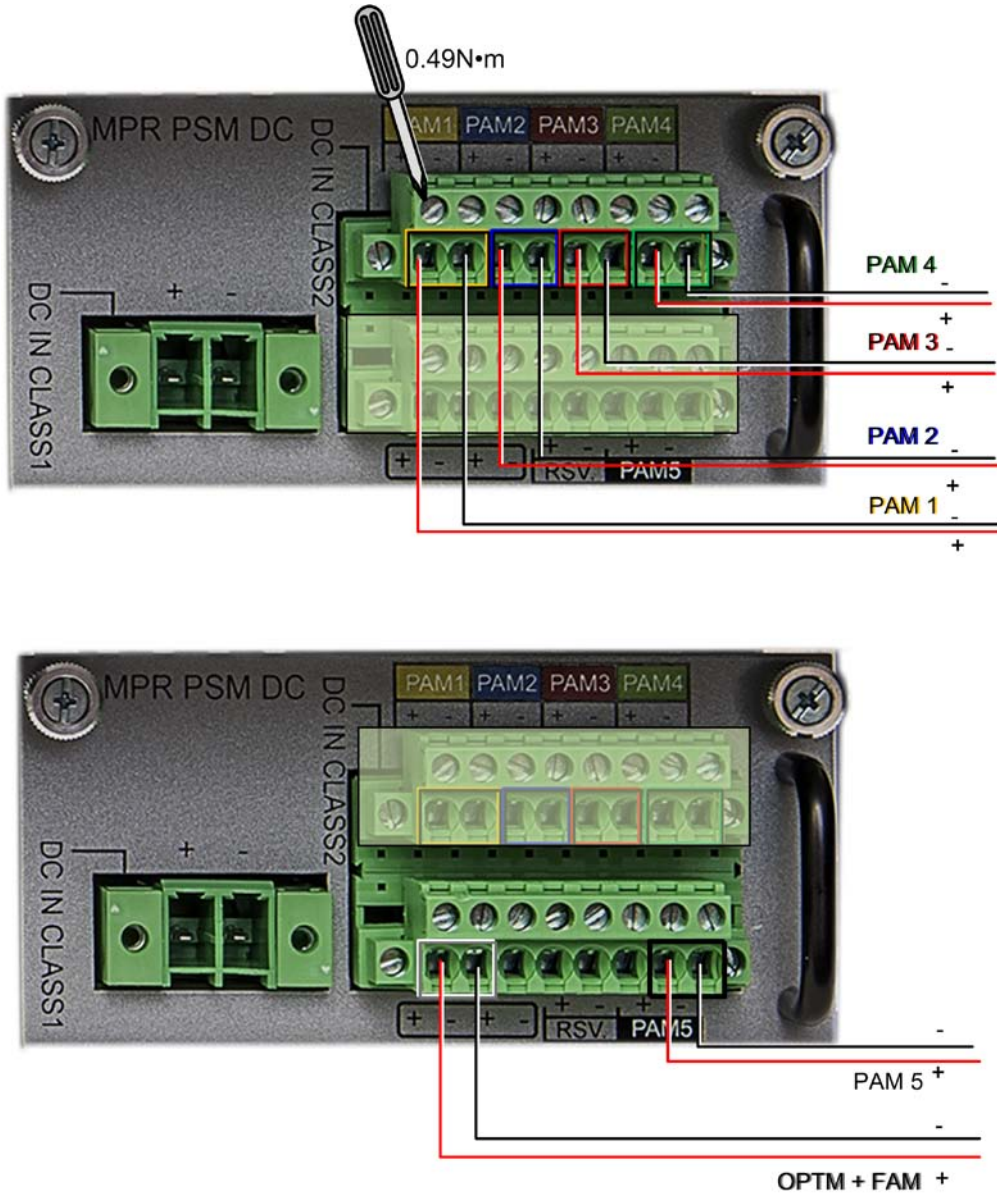

Figure 4-9. Example of CLASS2 DC Wiring Connections
- The CLASS2 DC connector supports the following wire pairs (refer to Figure 4-9):
1. Identify the positive and negative terminals for the DC pair to be wired on the CLASS2 connector feed positions. The wiring sequence is positive to positive and negative to negative as shown in Figure 4-9.